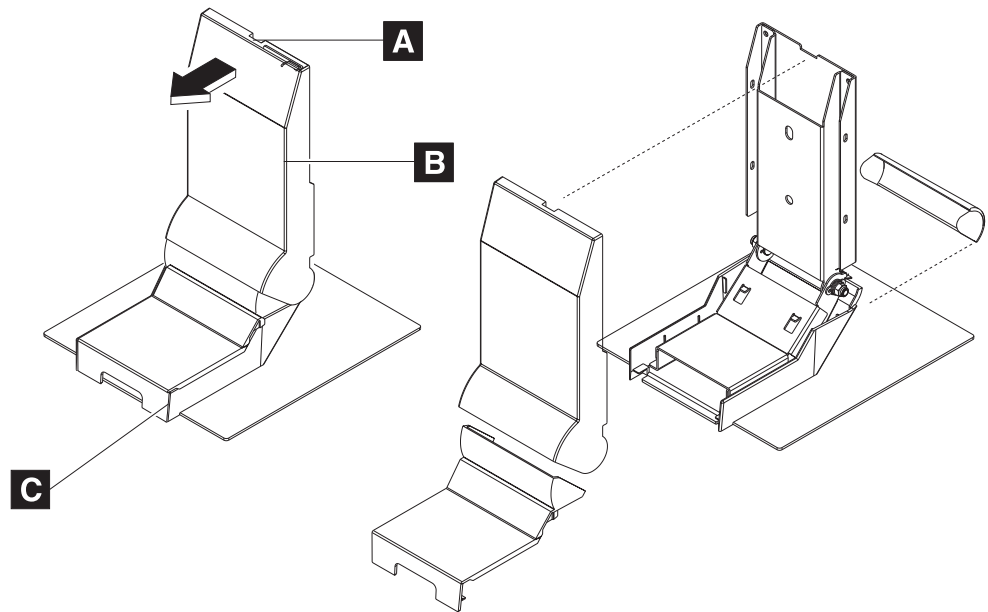

Figure 32. Removing the stand cover set
1. Remove the arm cover ( **B** ) by pulling on the finger recess ( **A** in Figure 32) located on the top of the cover.